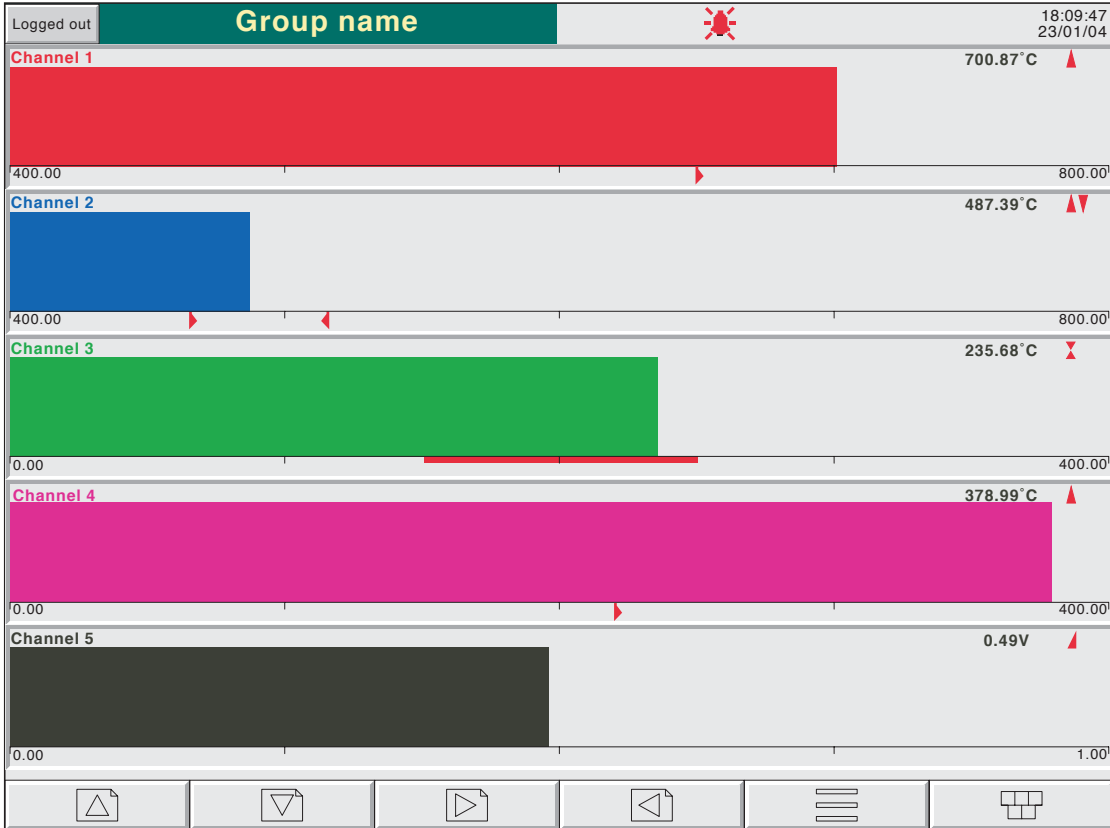

Figure 3.4.4a Horizontal bargraph display (1 to 12 points)
Entered from Vertical bargraph mode or (if fitted), the Circular trend mode, by means of the down arrow key, or selected using the Root Menu 'Goto View' key, this display mode shows the Process Variable (PV) values as horizontal bars with digital values and alarm data displayed, as shown in figures 3.4.4a and 3.4.4b. Single column format is used when there are up to 12 points in the display group; double column for more than 12 points (where 'points' means input channels, totalisers, counters, maths channels etc.).